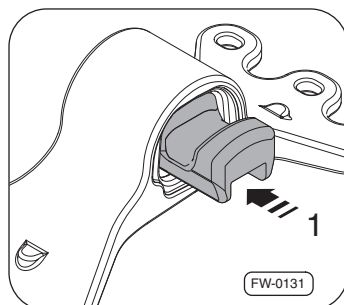

Fig. 42 · Insert the rubber dampers
1. Press new rubber dampers Fig. 42 sideways into the openings of the mounting brackets (bearing blocks) —Pfeil 1—, whilst at the same time ensuring the correct position.